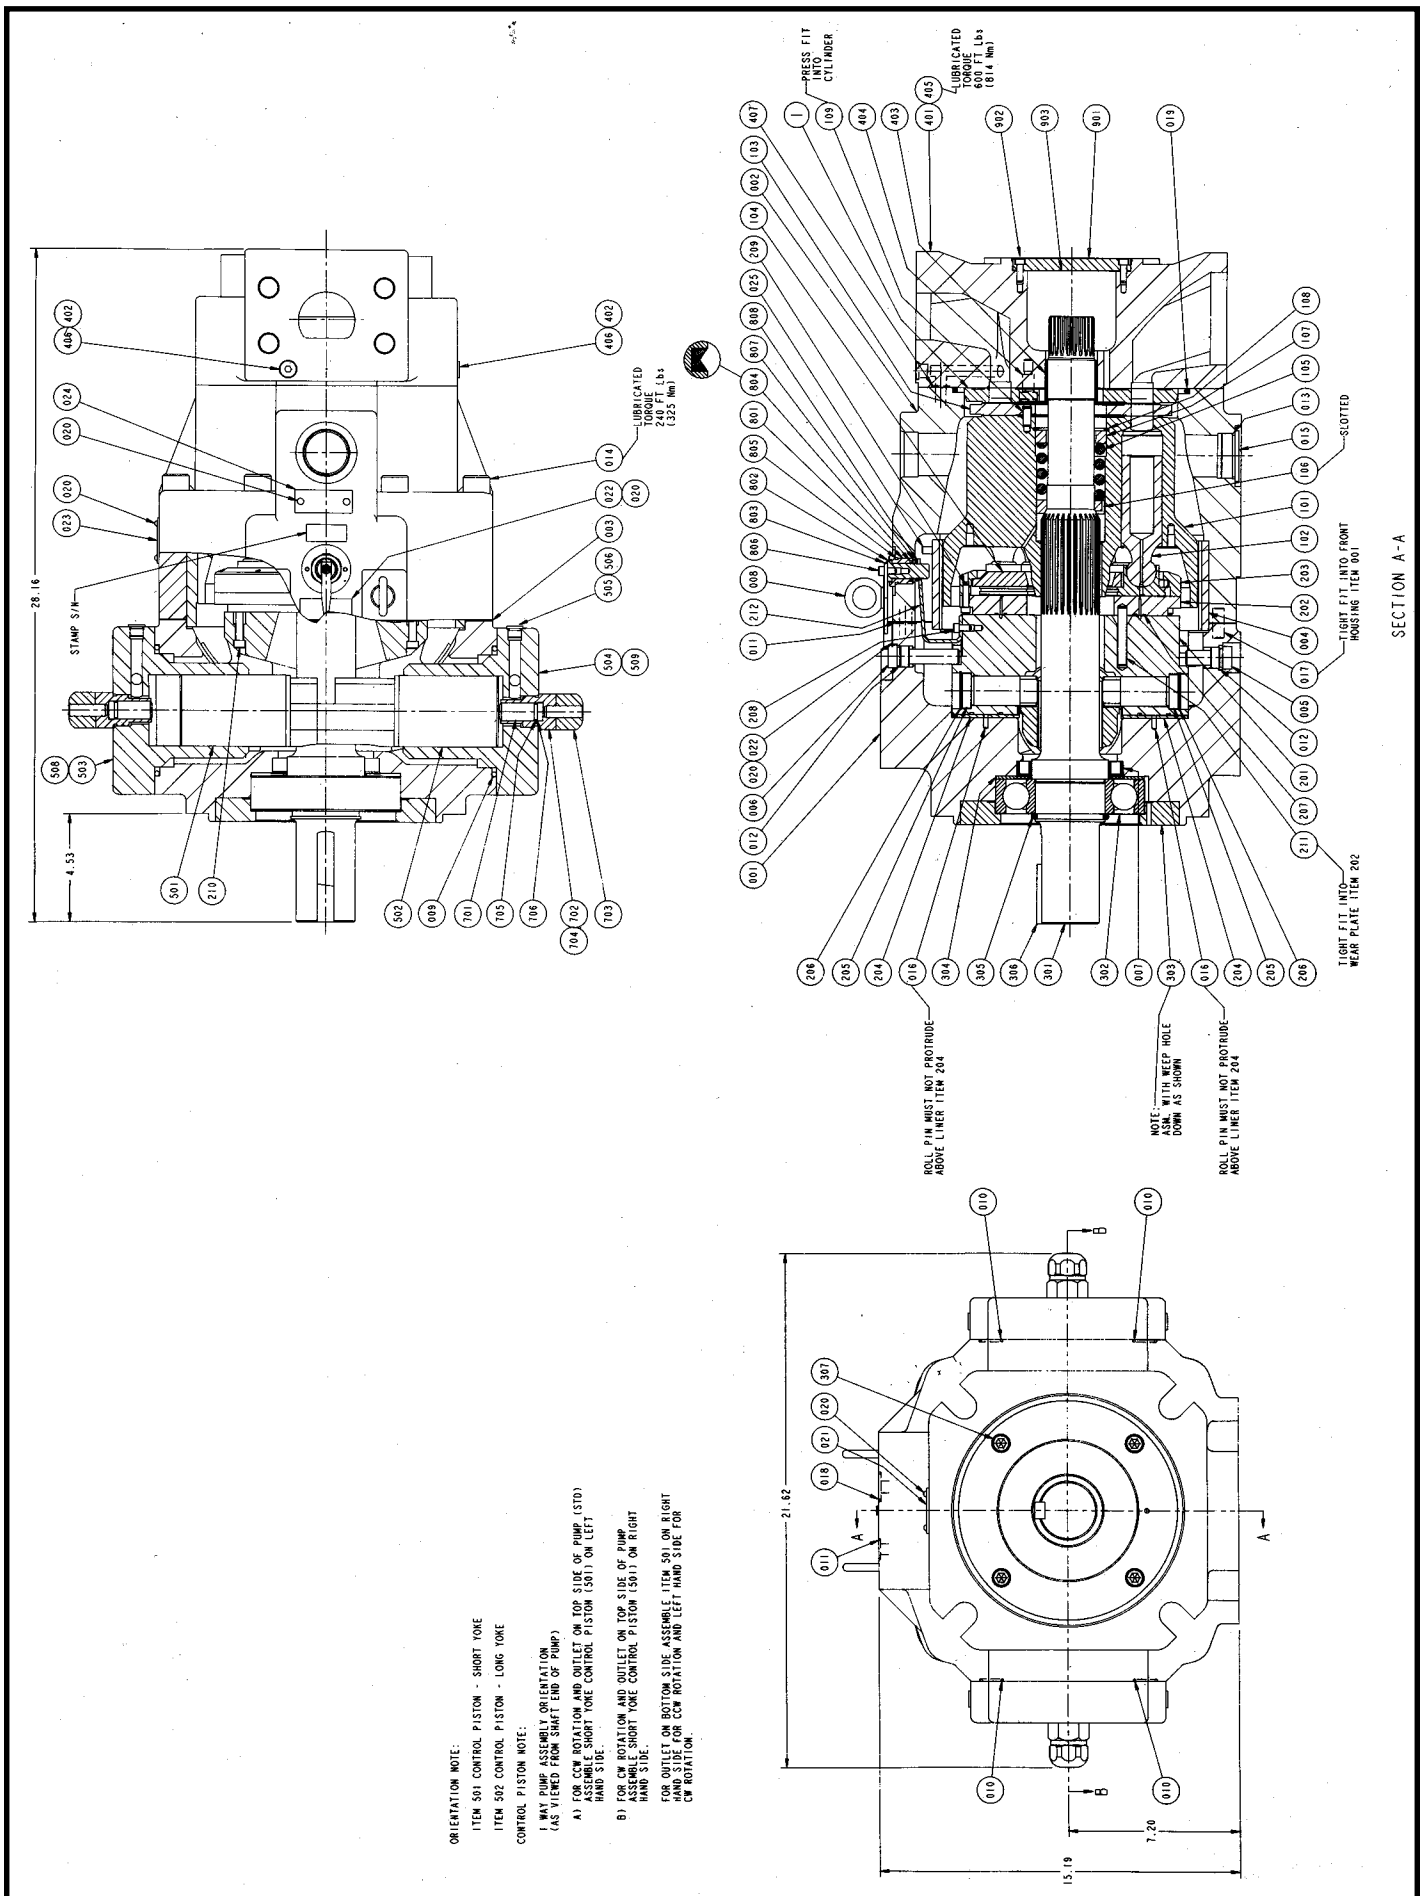

Figure 7. Cross Section Drawing (515888 sht. 1).
Refer to figures 7 and 8. It will be advantageous to tag similar parts (particularly screws, plugs and o-rings during disassembly) to be certain they don't become confused with similar parts and to assure they will be returned to original location. Do not remove (locator) roll pins unless they are deformed or otherwise in need of replacement.
Refer to figures 7 and 8. Depending upon what part or parts are to be inspected, it may not be necessary to completely take apart all assemblies or disconnect the driveshaft and front housing mounting from the drive shaft. If **only** the port plate (1) is to be inspected, it is possible to remove valve plate group (G) only. The driveshaft group (I) can be removed, without disassembling the rest of the pump, to access front driveshaft bearing (302) and/or shaft seal (007).
Refer to figures 7 and 8. The procedure for assembling the pump is basically the reverse order of disassembly. During assembly, install new gaskets, seals and o-rings. Apply a thin film of CLEAN grease or hydraulic fluid to sealing components to ease assembly. If a new rotating group is used, lubricate thoroughly with CLEAN hydraulic fluid. Apply fluid generously to all wear surfaces.